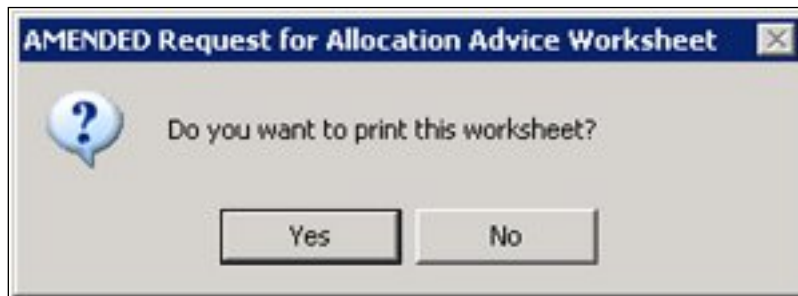

Figure 10-34: Print RAAWS Dialog Box
22. The Print Worksheet dialog box is displayed (Figure 10-34).